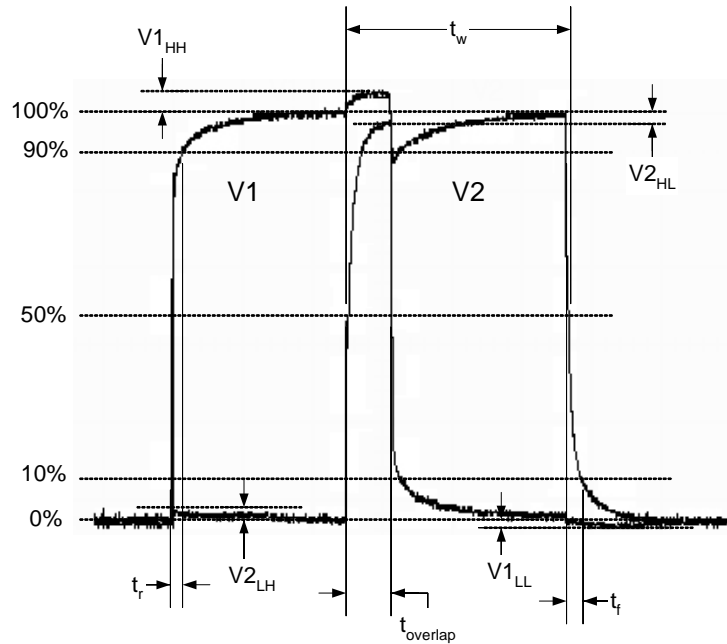

Figure 14: Transfer Timing Edge Alignment
5.0	<ul style="list-style-type: none"> <li>Page 3 charge capacity values updated based on characterization data .</li> <li>Page 4 pinout table corrected for labeling of VIDLBE (pin 42) and VIDLB0 (pin 40). Page 5 schematic clarified for readability. Page 21 timing labels changed to reflect TG1C and TG2x level variations. Levels and values did not change. Removal of package drawing. Updated exposure control features to include the luma channel. Finally, page 28, (%) description added to linearity chart to clarify units.</li> <li>Sensitivity test added to Image Specification table.</li> <li>Page 4 LOGL (pin 24) added to table and diagram.</li> <li>Page 6 description of die center added to last paragraph.</li> <li>Page 11 20mV max for chroma and 17mV max for luma added to exposure defect described in note 13.</li> <li>Page 20 correction to signal names TG1C, TG2x in table.</li> <li>Page 23 5ns nominal reset pulse width added to table.</li> <li>Page 25 Figure 14 updated to use same name as Figure 10 for reset pulse width, tRGw</li> </ul>